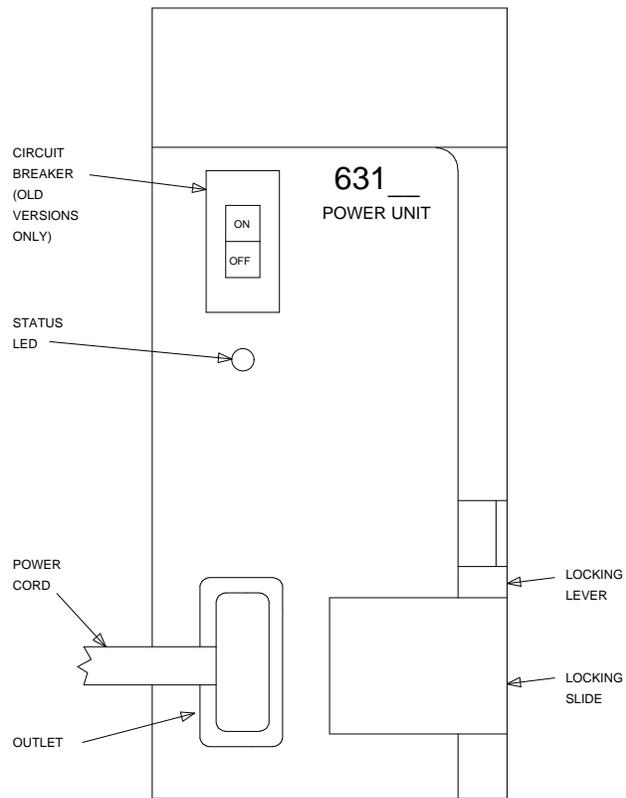

Figure 3-20. 631-Type Power Unit
21. Connect the power cords to the power units. The power cords are the white cables equipped with plugs that are run through the slots in the front of each carrier (see Figure 3-20).